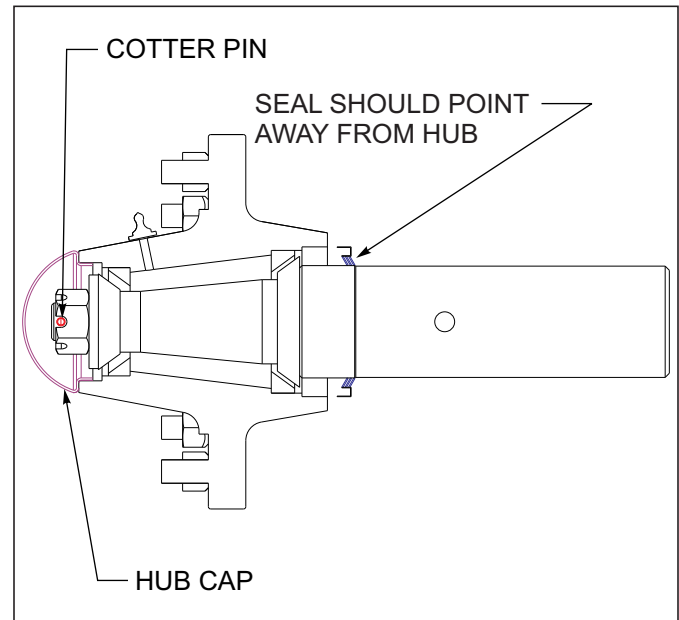

Figure 4-10: Triple Lip Seal
The triple-lip seals should point away from the hub to keep contaminants out and allow grease to pass. See Figure 4-10.
11. Install a new cotter pin and replace the hub cap. See Figure 4-10.